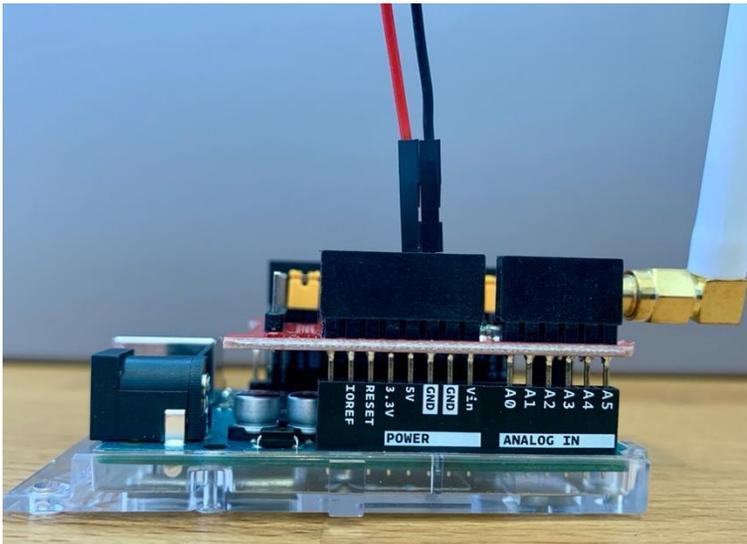

Figure 11: Black wire, connected to a GND terminal
- b. GND (black wire) to GND terminal (Figure 11)